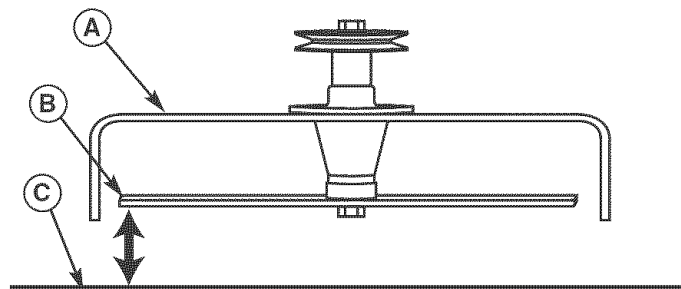
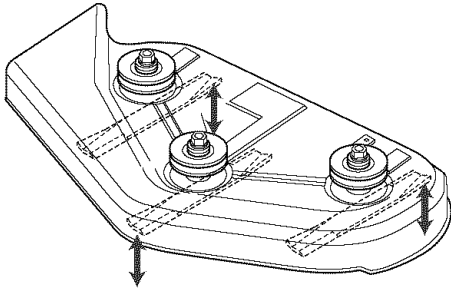

Figure 39. Measure Blade Tips to Ground
Figure 42. Orient Blades Front-to-Back
5. Measure the distance between the tips of the outside blades and the ground (Figures 39 & 40). If there is more than 1/8" (3mm) difference between the measurements on each side, proceed to step 6. If the difference is 1/8" (3mm) or less, proceed to Front To Back Leveling.
1. Turn the blades front-to-back as shown in Figure 42. Measure the distance from the ground to front tip of center blade, and from ground to rear tips of left hand and right hand blades (Figures 39 & 42). Front tips should be 1/8"-1/4" (3-6 mm) higher than rear tips. If not, proceed to step 2.